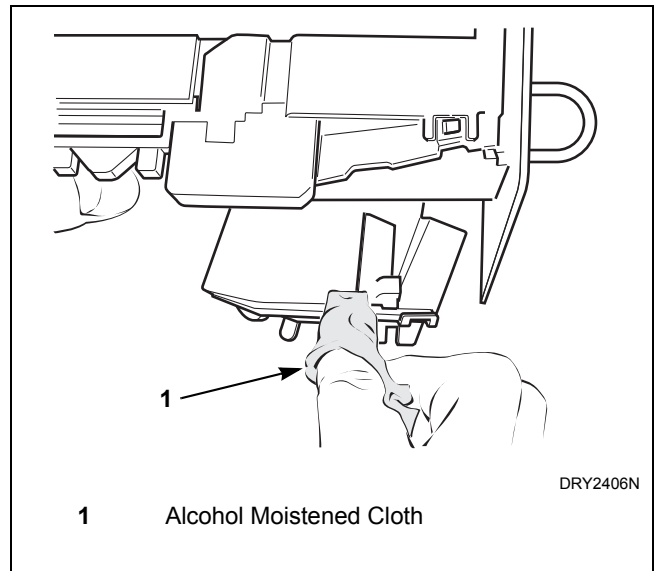

Figure 9
5. Clean residue from coin rail with an alcohol moistened cloth. Refer to *Figure 9*.